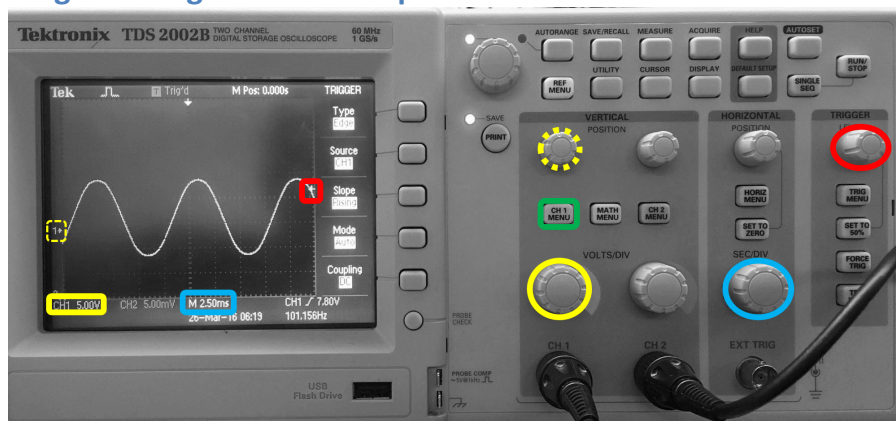

Fig. 1: Oscilloscope. Important control knobs and on-screen information
2. Press the CH 1 MENU button (Fig. 1, green) and make sure that Coupling is set to DC.
3. Adjust sec/div (Fig. 1 blue) – each vertical line on the displayed screen represents the sec/div you selected, channel 1 volts/div (Fig. 1 yellow) – each horizontal line on the displayed screen represents the volts/div you selected, and channel 1 horizontal position (Fig. 1 yellow), until you can see the yellow line (channel 1 signal) on screen.